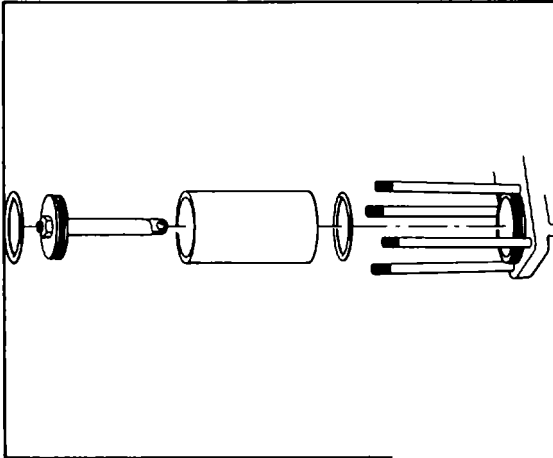

Figure 177.
6. If removed during disassembly, inspect four studs (15) for damaged threads, bends, twists or cracks and replace if necessary. Use Loctite sealant, Grade 3, on coarse threaded end of studs and install in housing (57). Torque studs down tight.
7. Inspect piston (45) for nicks or scratches around the perimeter. If observed, replace piston (45). Inspect link end of rod assembly (67) for cracks. Replace rod assembly (67) if cracks are found. Install piston (45) on rod assembly (67) with washer (66) and selflocking nut (44). Torque selflocking nut (44) to 420 in. lbs.
8. Install three new O-rings (46) on housing (57), piston (45), and cylinder cover (43). Install servo plunger assembly in control housing (57).
9. Lubricate the entire inner surface of cylinder tube (16) with clean transmission oil. Install cylinder tube (16) over servo piston assembly (45) and seat tube (16) against housing (57). See Fig. 177.
10. Install two new O-rings (14) on each end of transfer tube (17). Lubricate the ends of the transfer tube (17) and insert in cylinder cover (43). Install cylinder cover (43) with new O-ring (46) and transfer tube over studs (15) and seat into end of servo